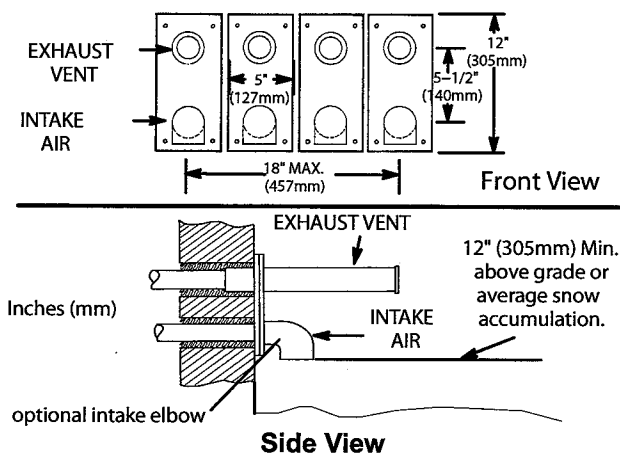

Figure 26
8. Based on the recommendation of the manufacturer, a multiple furnace installation may use a group of up to four terminations assembled together horizontally, as shown in Figure 26